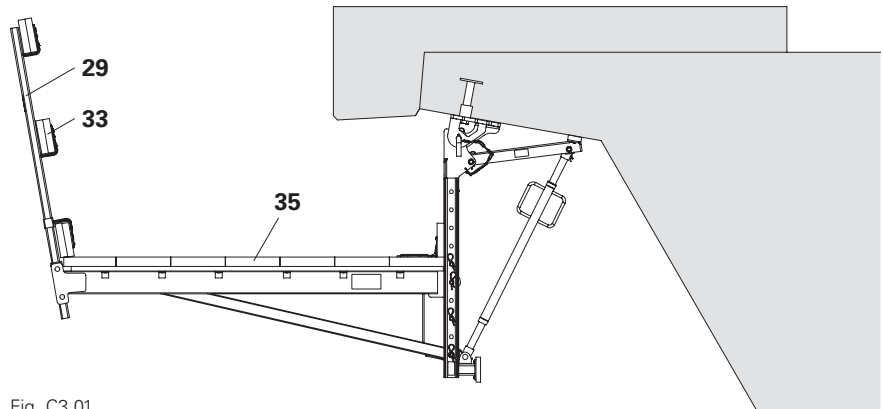
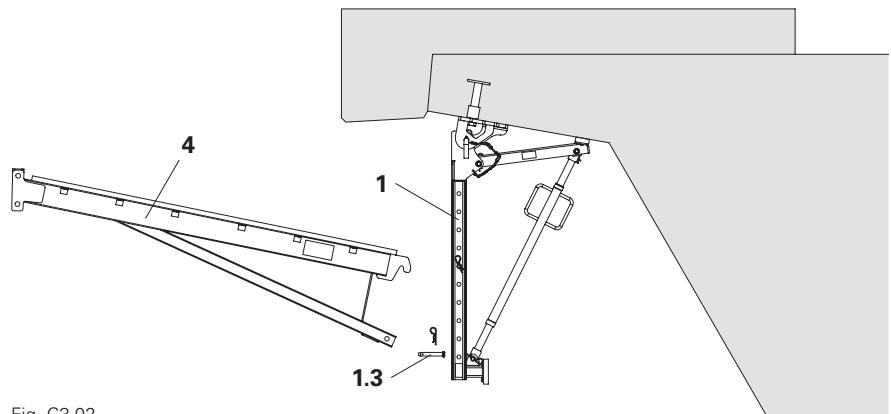

Fig. C3.01
Fig. C3.02
1. Remove guardrail boards (33) and Guardrail Posts HSGP-2 (29).
2. Remove the planking (35) continuously. (Fig. C3.01)
3. Remove Platform Cantilever Beam VGK 170 (4).
4. Re-install bolts and cotter pins (1.3) in Bracket Post VGK (1). (Fig. C3.02)